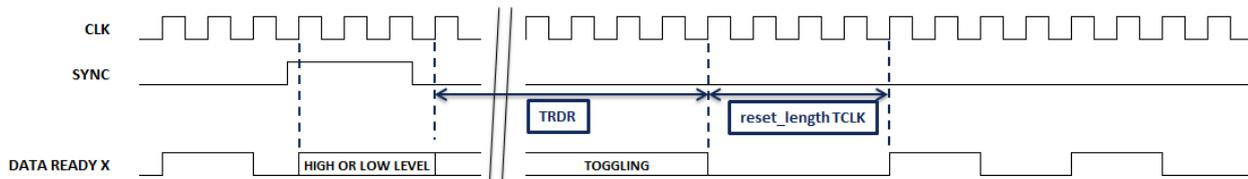

Figure 5: SYNC timing diagram in DEMUX 1:1
4. Refer to timing diagram in Figure 5. T1 and T2 correspond to setup and hold times of the SYNCTRIG input seen at the package input.